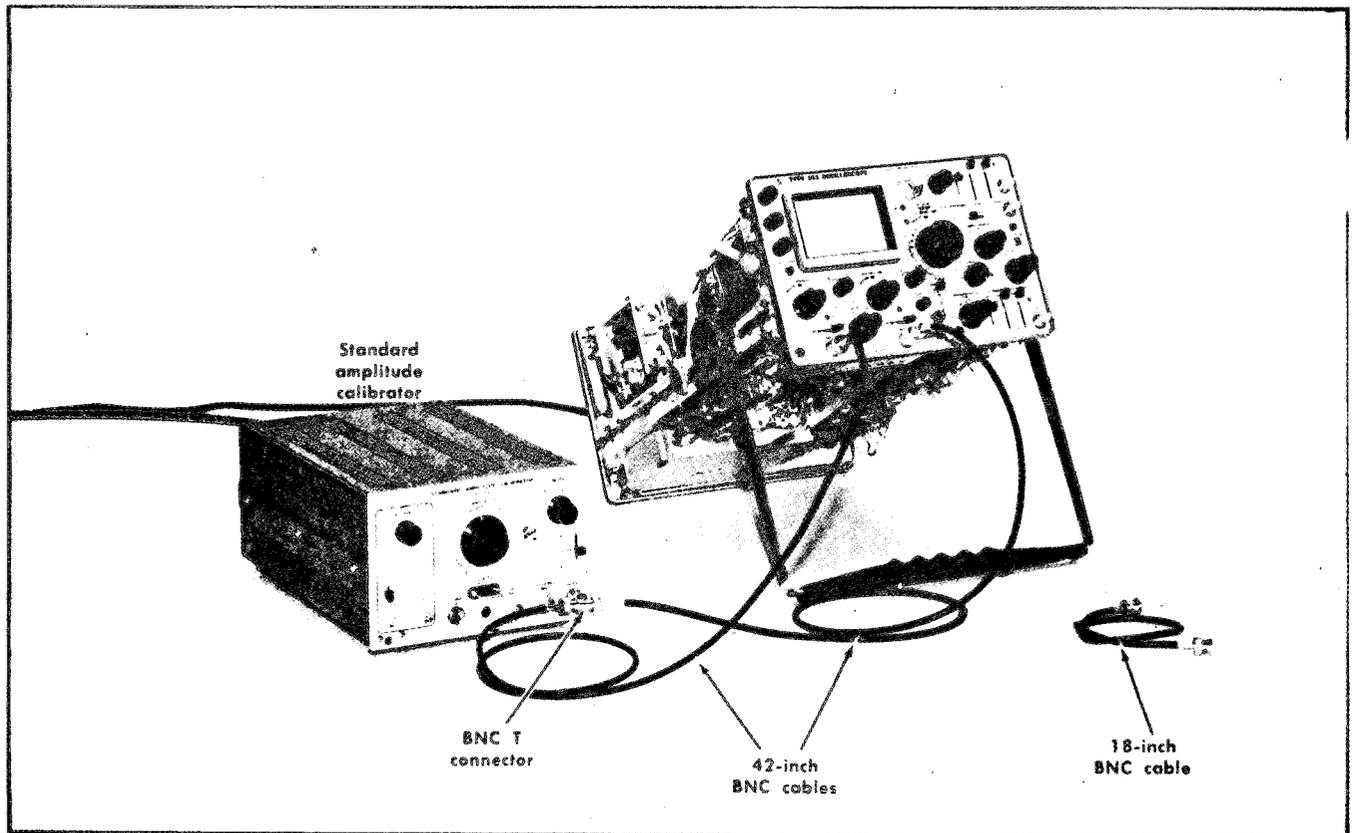

Fig. 6-16. Initial test equipment setup for steps 13 through 21.
13. Adjust Channel 1 and 2 Gain ❶
a. Test equipment setup is shown in Fig. 6-16.